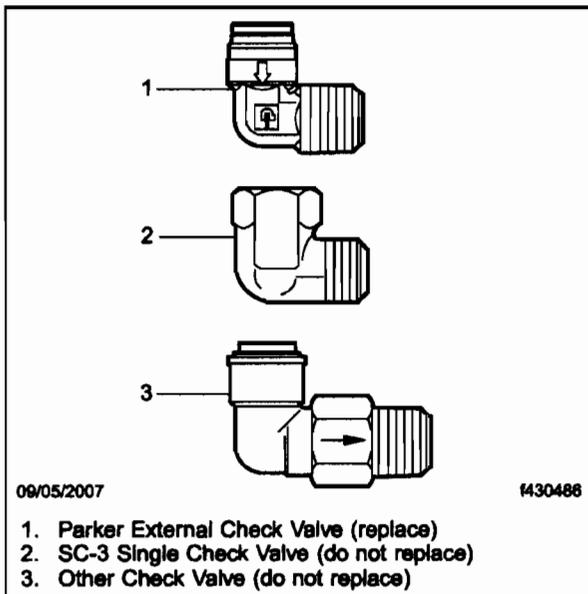

Fig. 1, External Check Valve Identification
3. Locate the Parker external single check valve installed in the supply port of the SR-7 valve as shown in Fig. 1.